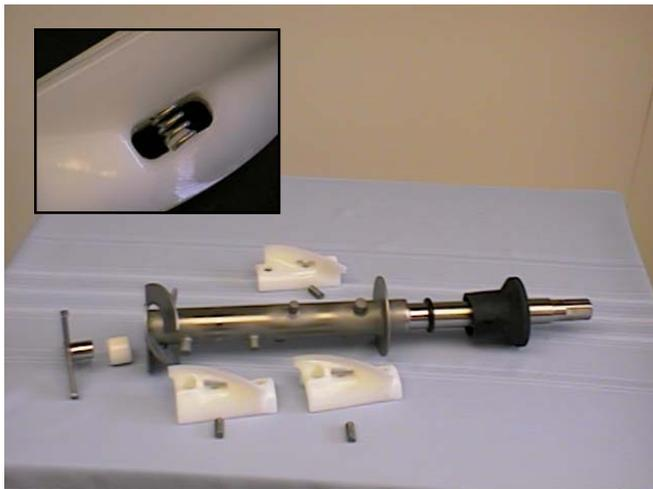

Figure 25. Exploded View of Auger (E111 Shown)
- D. Screw the springs onto the studs in plastic flights. **Springs must be screwed into the flights completely** to provide proper compression (Fig. 25).